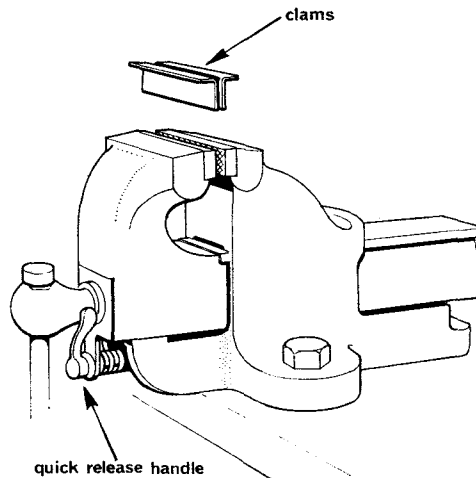

Fig. 23 Bench vice
24. **Bench vices.** A vice is used to hold material firmly in a required position while work is being done. The jaws have serrated faces to give an increased grip but can be fitted with soft metal 'clams' to protect a finished surface (Fig. 23). Most vices have a quick release mechanism to enable the jaw spacing to be changed easily. Bench vices are classified by weight and length of jaw.